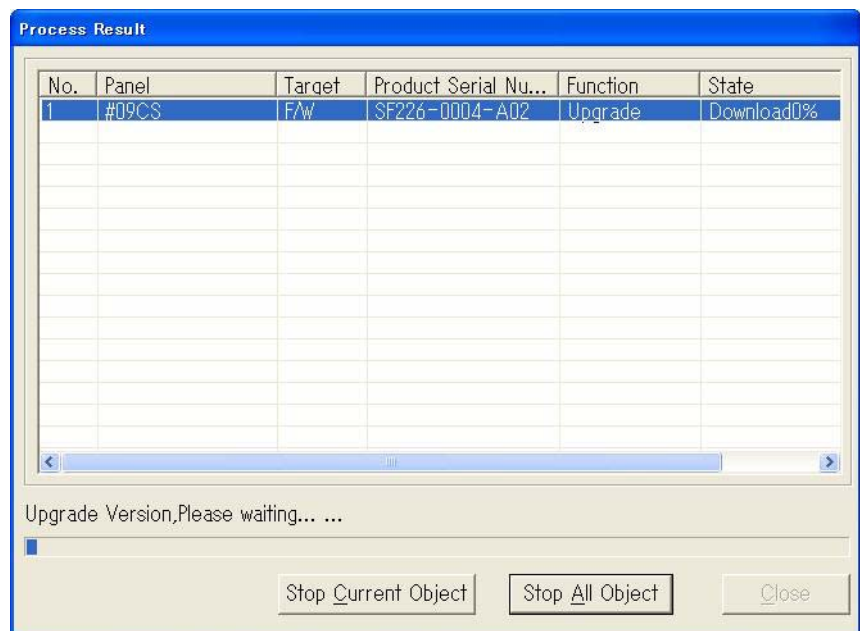

Fig. 4-10-15 Upgrade F/W and FPGA Dialog Box during Upgrading
- 14 During the upgrading operation, the window is shown in **Fig. 4-10-15**.